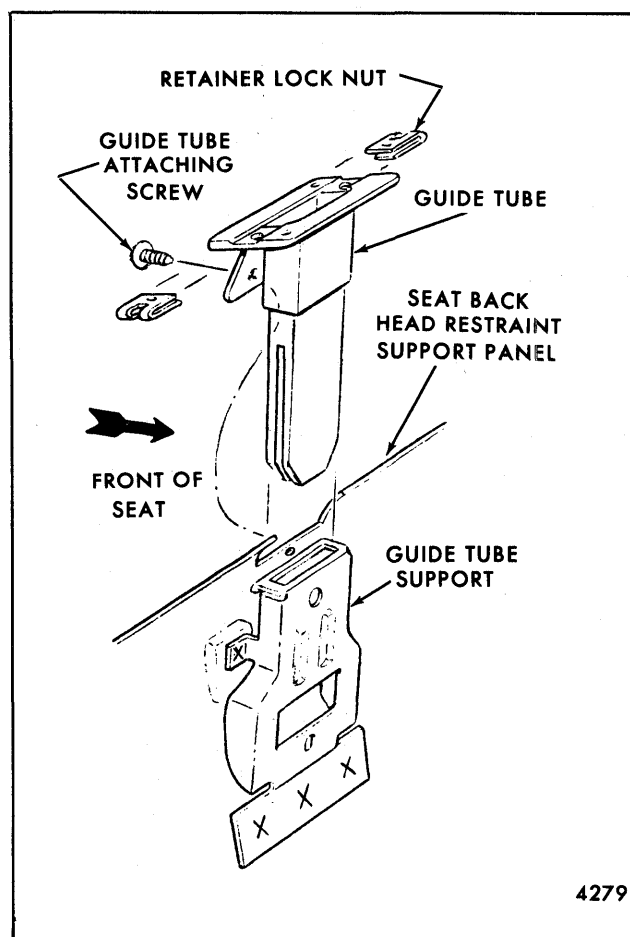

Fig. 9-16-Head Restraint Guide Tube
3. Remove screw securing guide tube and slide guide tube out of support (Fig. 9-16).